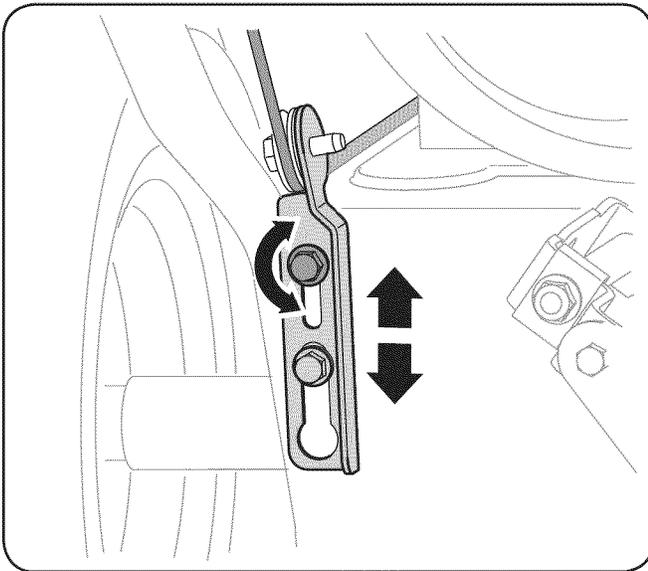

Figure 3-22
4. Allow the auger to remain engaged for approximately ten (10) seconds before releasing the auger control. Repeat this several times.
8. Position the bracket upward to provide more slack (or downward to increase cable tension). See Fig. 3-22.